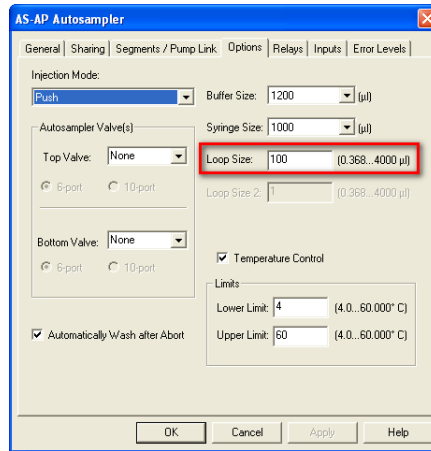

Figure 4. AS-AP Instrument Configuration
14. AS40, AS-DV or manual injector: For systems using an AS40 Autosampler or manual injector, install the 25 µL sample loop on the injection valve. The AS40 Load connectors of the relay control cable (P/N 047946) should be connected to **Relay_1** on integrated systems. This is illustrated below in Figure 4. The AS-DV connects to the Chromeleon PC via a USB cable.